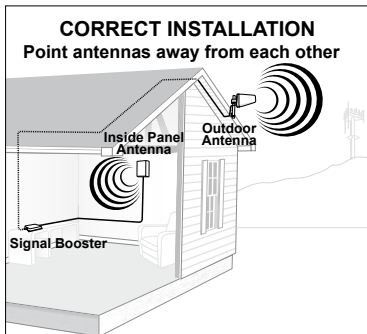

Figure 1
See Figures 1 & 2 on page 10.
1. Never point the front of a Directional Outside Antenna toward the Inside Antenna. Refer to Figures 1 & 2 below.
The Outside Antenna needs to be pointed at the cell tower with its back facing towards the Inside Antenna (refer to Figures 1 & 2 on page 9). Without proper orientation of the antennas, you will not be able to get the maximum gain from the Signal Booster.